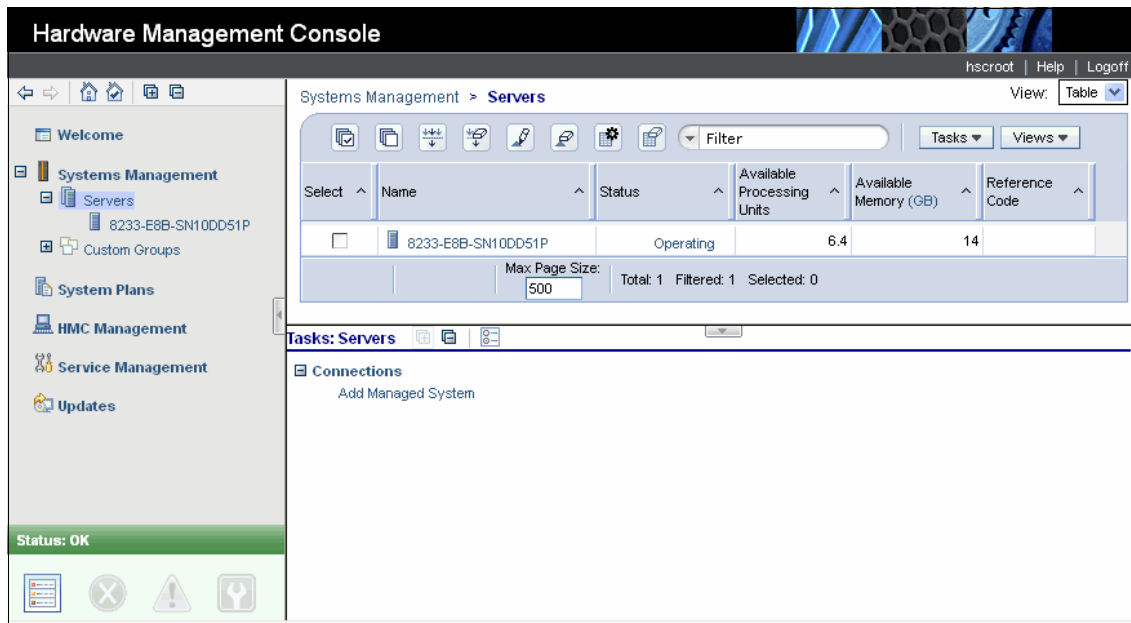

Figure 5-8 System Management servers window
4. Click **Servers** to see a listing of individually defined servers in table form in the work pane, as shown in Figure 5-8.